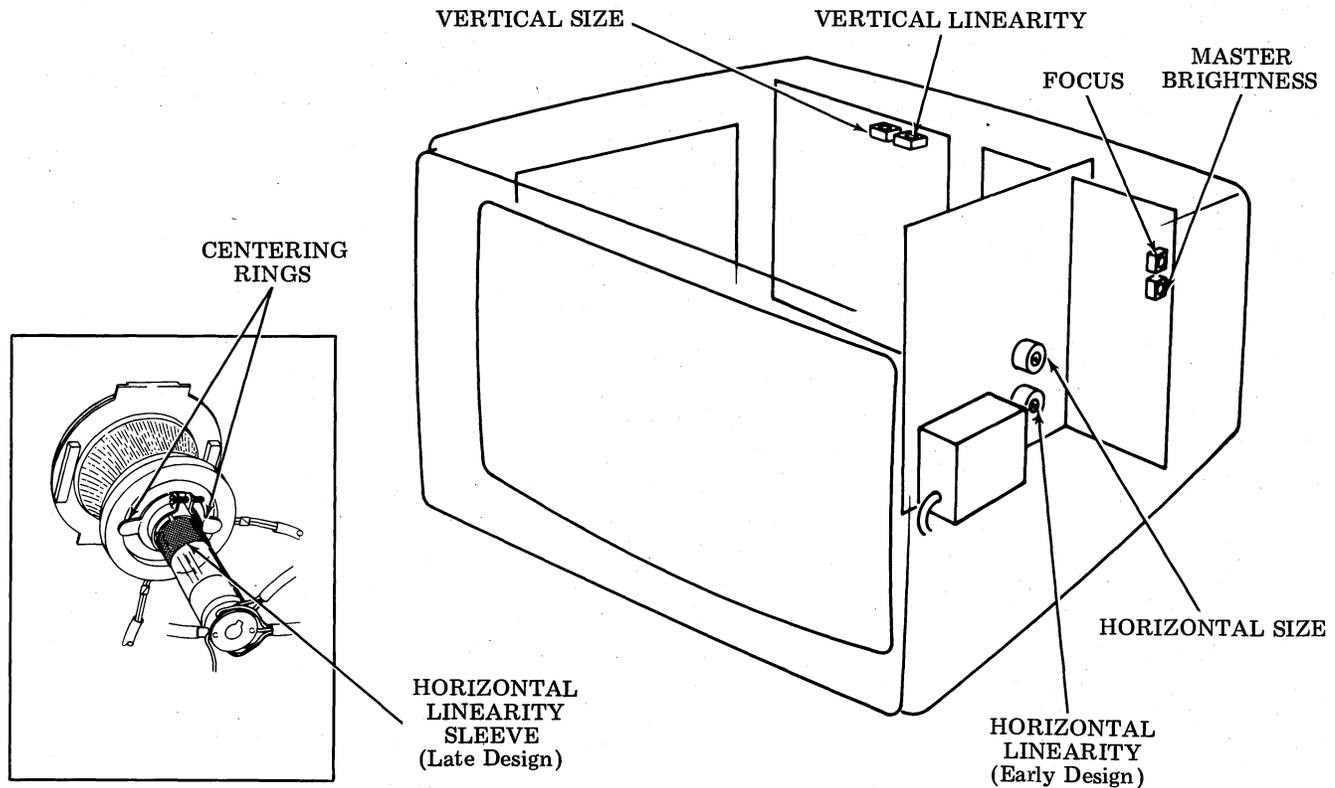

Figure 5 - Location of Display Adjustment Controls
C. Display Adjustment Controls (Figure 5)